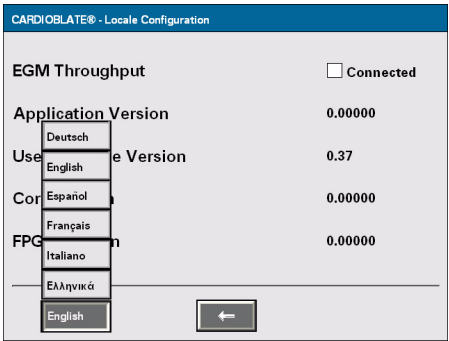

Figure 10. Changing the Language
1. Select the current language tab on lower left side of the Locale Configuration screen (Figure 10).